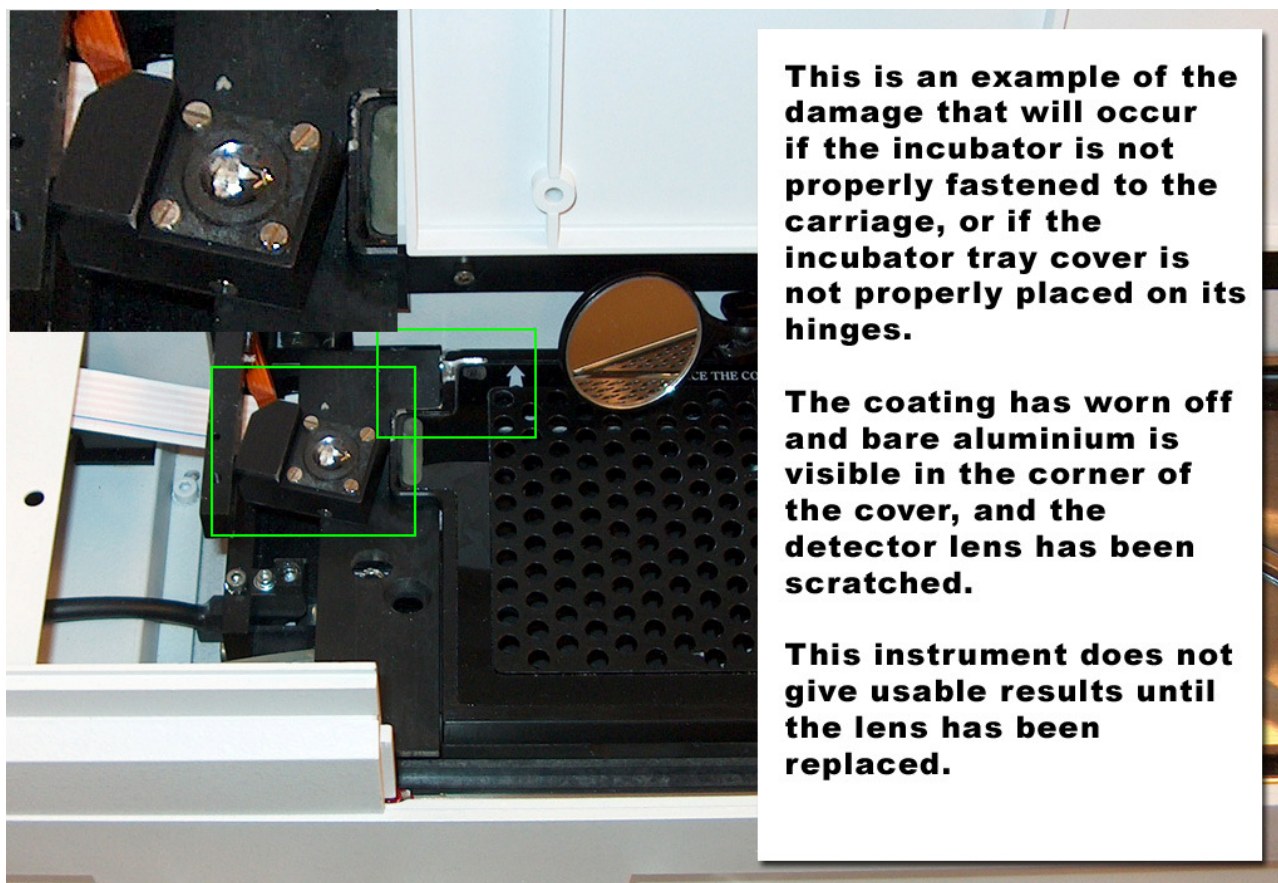

Figure 5 Check the correct placement of the incubator tray cover.
- Make sure that the incubator tray cover is properly in place. *CAUTION: See Fig. 5 on the next page!*